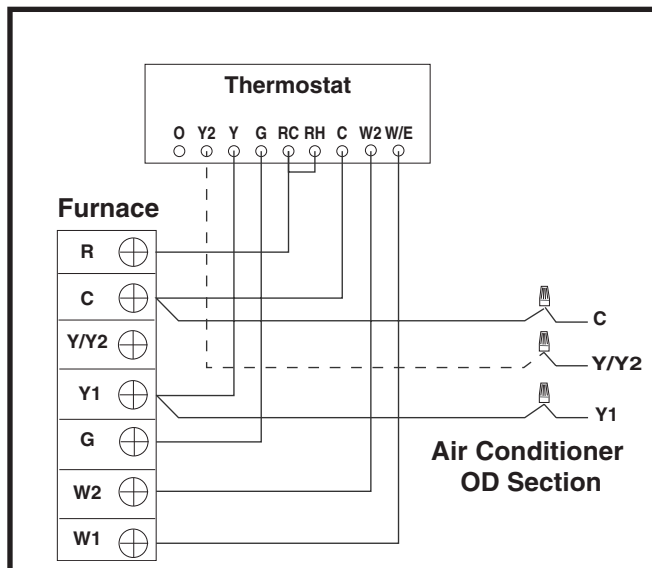

Figure 2. Typical 2-Stage Air Conditioner (without CoreSense) with Gas Furnace
- Thermostat connections should be made in accordance with the instructions supplied with the thermostat and the indoor equipment. See Figure 2.